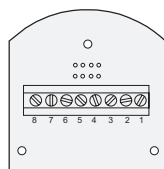

Fig. 2
Step 3: Connect wiring as indicated in section 6.4. (Fig. 2)
Output Type (Order Code) Fig. 2